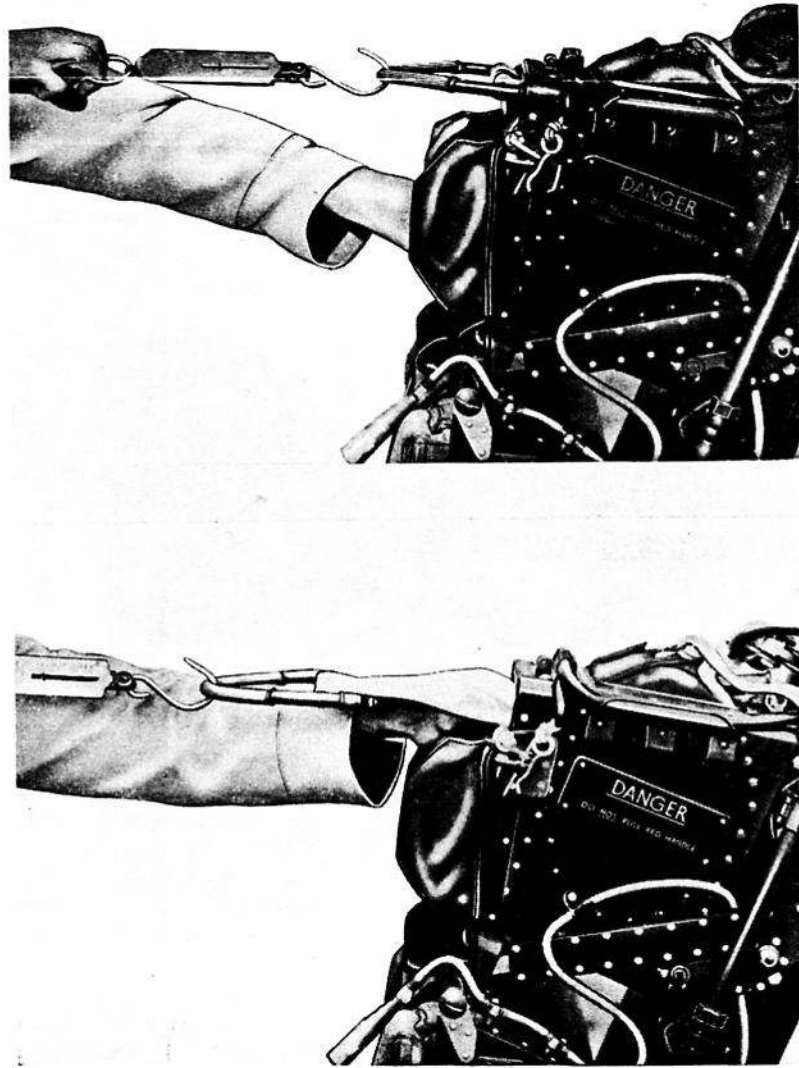

Fig. 21. Testing the face screen
28. Connect a spring balance to the firing handle (fig. 21) and pull until the spring-loaded plungers disengage, watching the scale whilst doing so. The face screen should not pull out of its housing until the scale registers 25 to 45 lb.